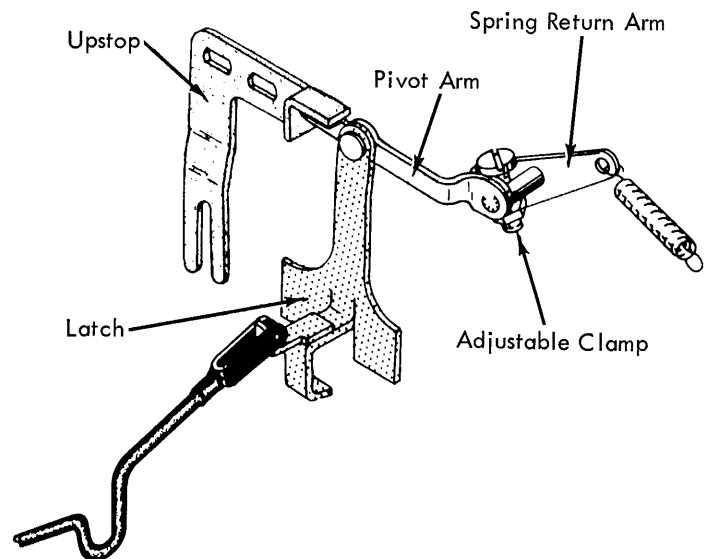

FIGURE 22. Check Latch Spring Return Arm
- b. Spring Return Arm (Fig. 22) - Position to hold the pivot arm against the upstop.